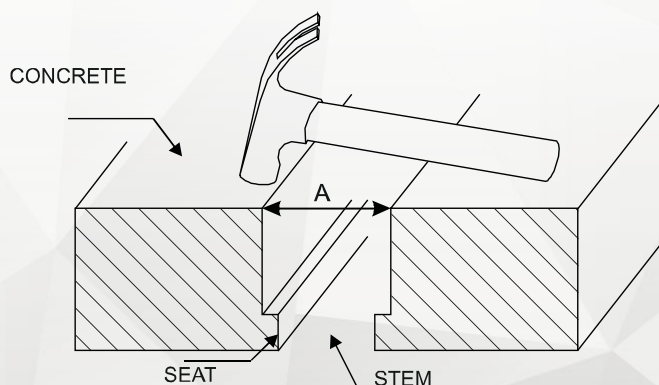

Figure 1.
5. Concrete adjacent to the expansion joint system must be sound. This should be confirmed by tapping these areas with a hammer (see Figure 1). If a hollow sound is heard or if the concrete cracks, crumbles or loosens, the unsound concrete must be removed and repaired with a structural repair mortar.